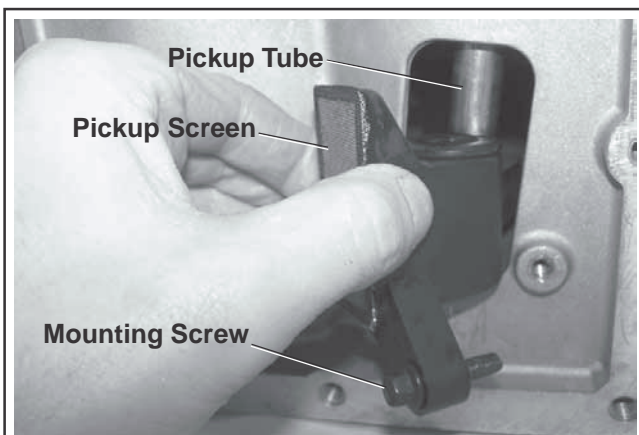

Figure 8-51. Removing Pickup Screen.
2. Remove the mounting screw and carefully work the pickup screen off the end of the pickup tube. See Figure 8-51.